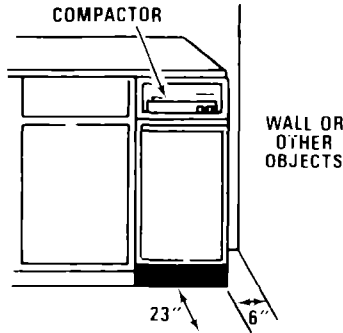

FIGURE 3
2. Your compactor is designed for recessed installation. A six (6) inch clearance from the right edge of the drawer front is desirable for added convenience in bag removal. Also allow twenty-three (23) inches in front of the appliance for drawer removal. See Figure 3.